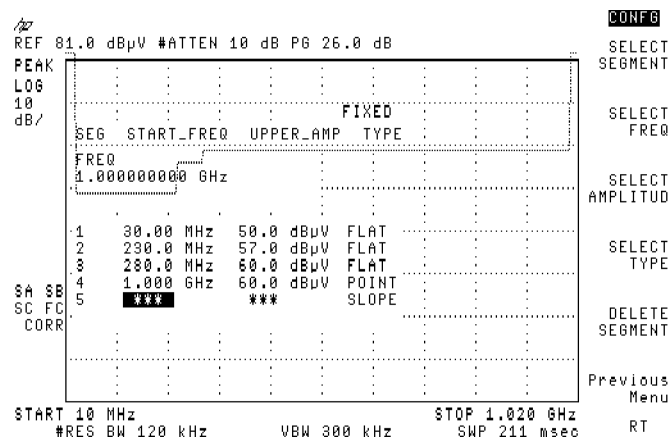

Figure 3-71. The Completed Limit-Line Table
24. Press **SELECT TYPE**, then **POINT**. See Figure 3-71.